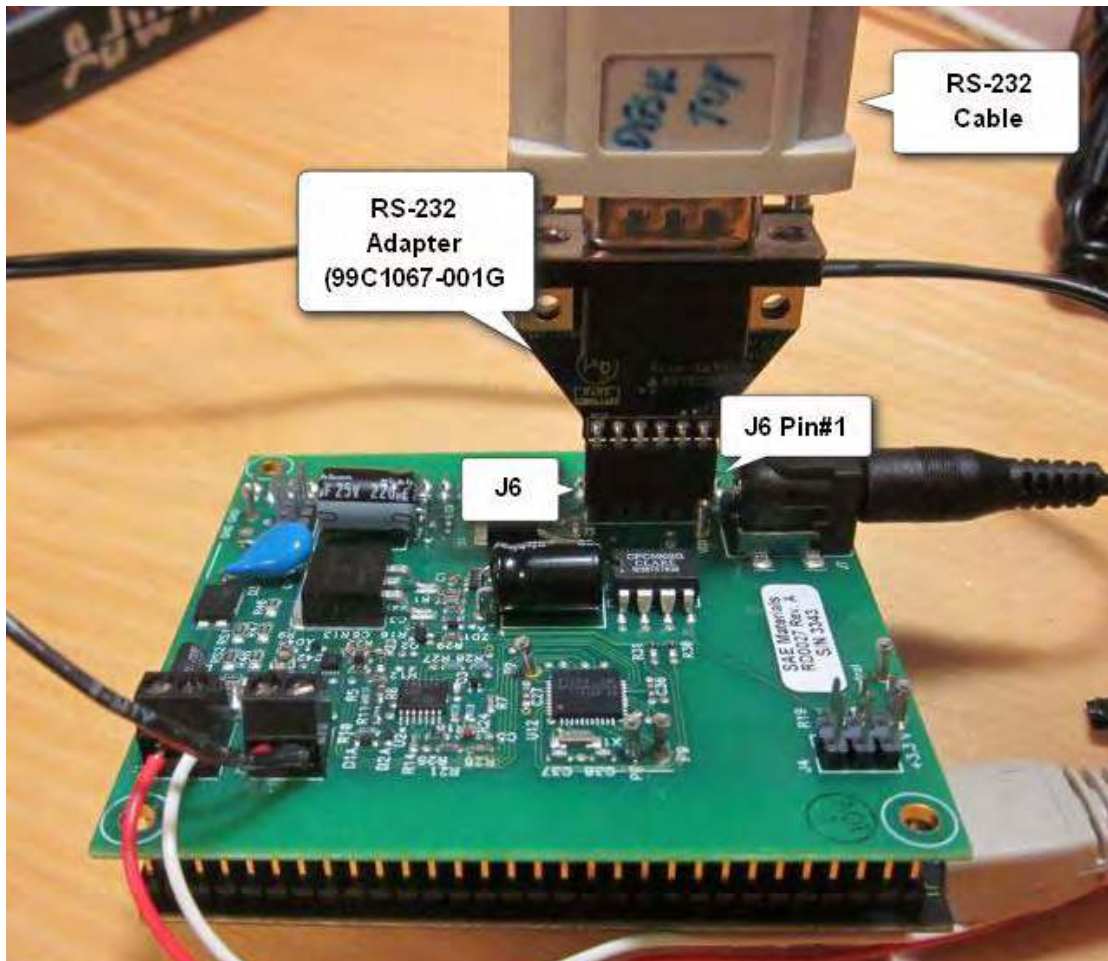

Figure 6. Power Board with Zilog UART-to-Serial Adapter
5. Connect a serial cable between the DB9 connector of the Zilog Serial Adapter and a COM port on your PC, as shown in Figure 6.